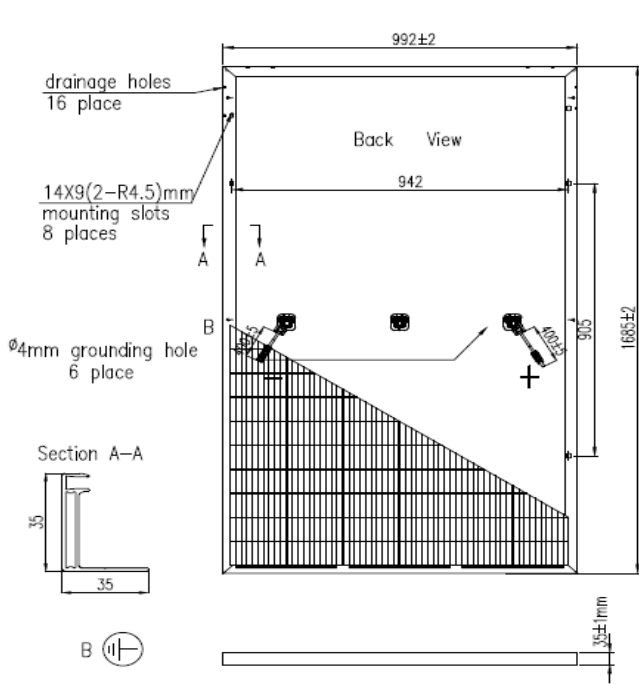
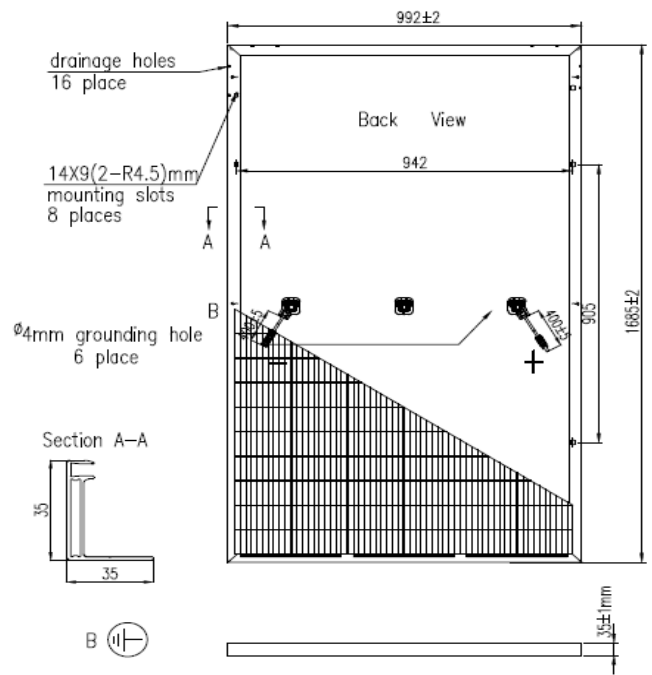

Fig.8-1 UL-XXXM-120
Fig.8-2 UL-XXXP-120
- ① Each module has two grounding holes (see Fig.8-1、 Fig.8-2、 Fig.8-3、 Fig.8-4、 Fig.8-5、 Fig.8-6、 Fig.8-7、 Fig.8-8). The symbol is located adjacent